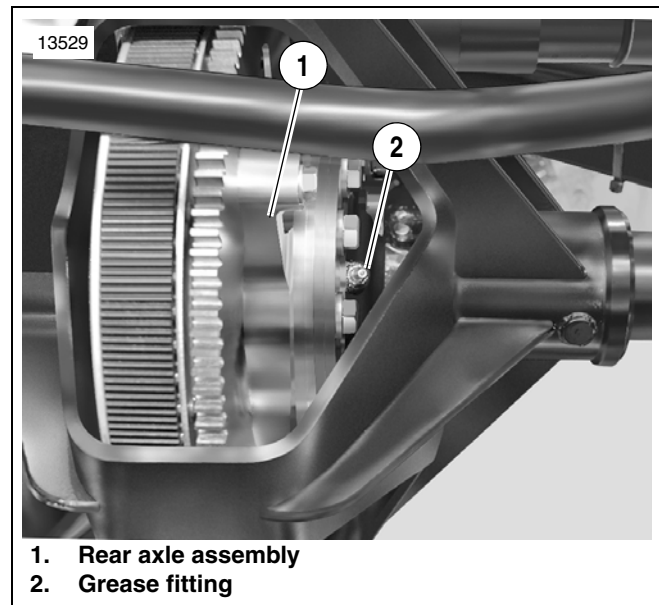

Figure 2. Rear Axle Grease Fitting
See Figure 2. The Tri Glide rear axle assembly (1) contains a grease fitting (2). The rear axle assembly is lubricated during assembly and does not require any additional grease. Do not apply any grease to this fitting. The additional grease may not be compatible with the existing lubricant, which can cause damage to the rear axle assembly.